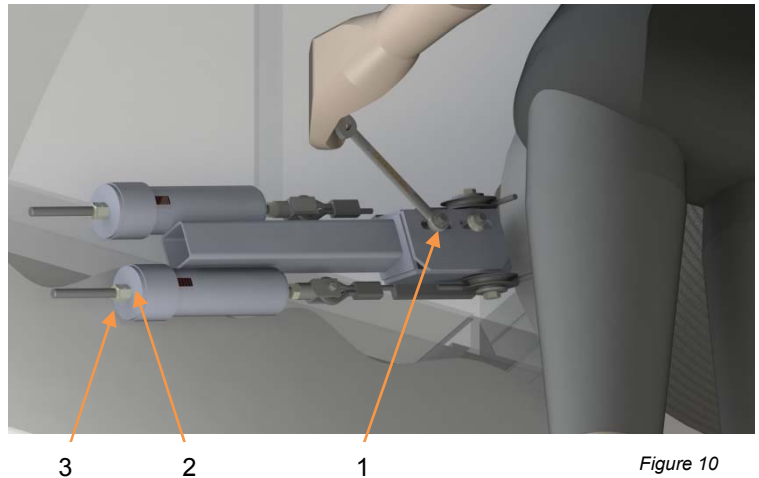

Figure 10
- Attach the system tensioner onto the welding plate; fasten the clamping nuts (1) of the system tensioner hand-tight.
- Tension the pressure springs in the system tensioner by tightening the nut (2) until the scraper lies fully flush against the belt and the bushing scale shows the tension value from the drilling table. Then lock it up fixing an additional nut (3).
- Tighten the clamping nuts of the system tensioner (1) (Figure 10).